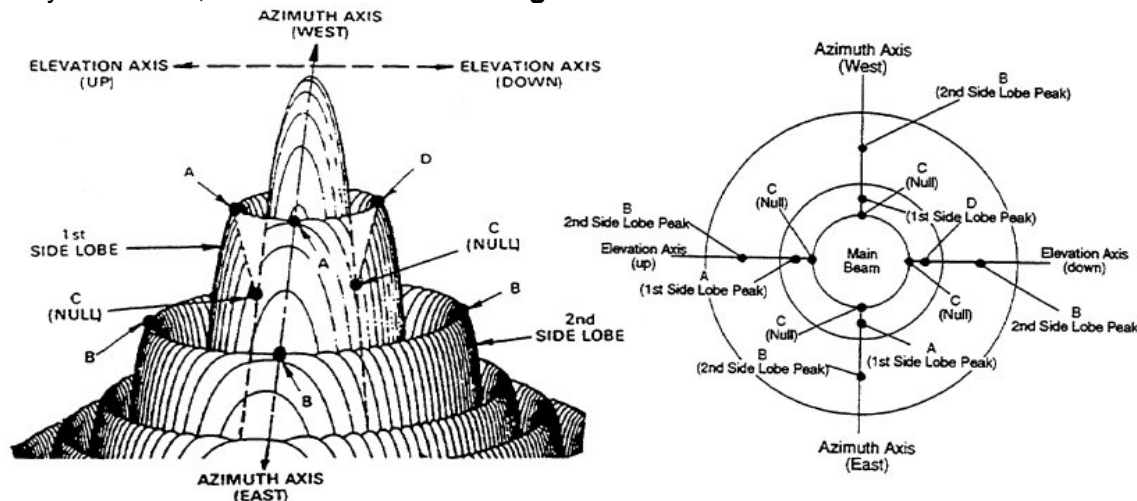

FIGURE 3-3: ANTENNA RADIATION PATTERN TOPOGRAPHICAL DIAGRAM W/ PLAN VIEW
Step 4 of 9: If the antenna is peaked on a side lobe in Az or El, move the antenna Azimuth while observing the Spectrum Analyzer screen, as illustrated below in **Figure 3-3**.